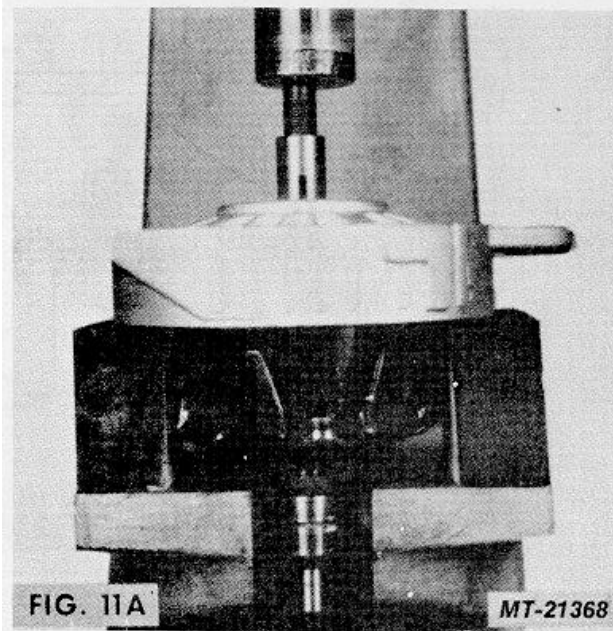

FIG. 11A
16. Using a puller or arbor press, remove the drive end housing and bearing assembly from the rotor shaft (see Fig. 11A).